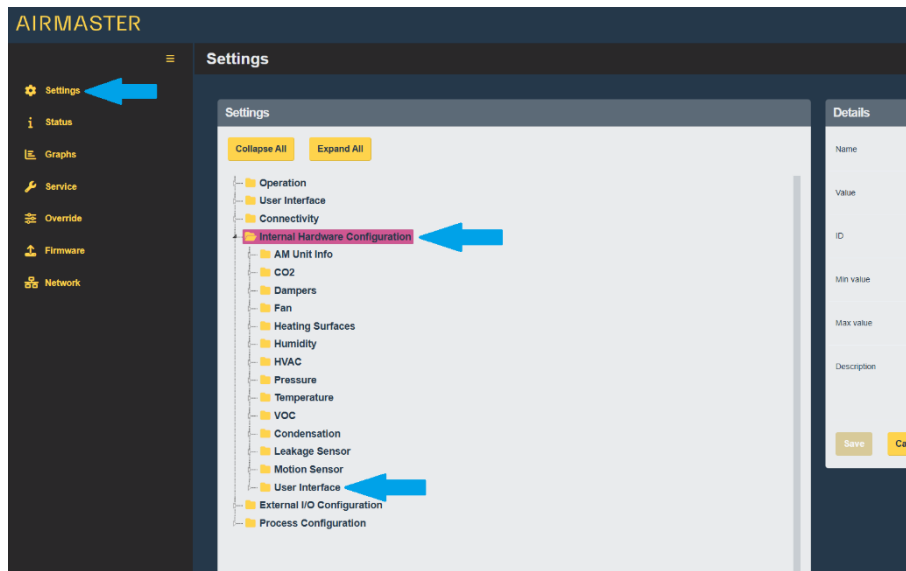

Figure 41: User Interface sub-menu
1. Click on “Settings” in the left-hand menu, then click ”Internal Hardware Configuration” in the drop-down list. Next, click on “User Interface”, see Figure 41 below.